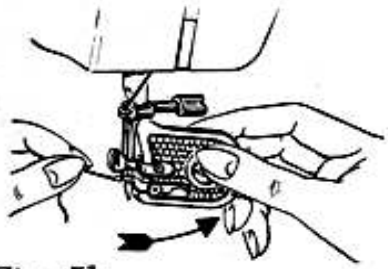

Fig. 5b
- Pass thread under hook (Fig. 5b).